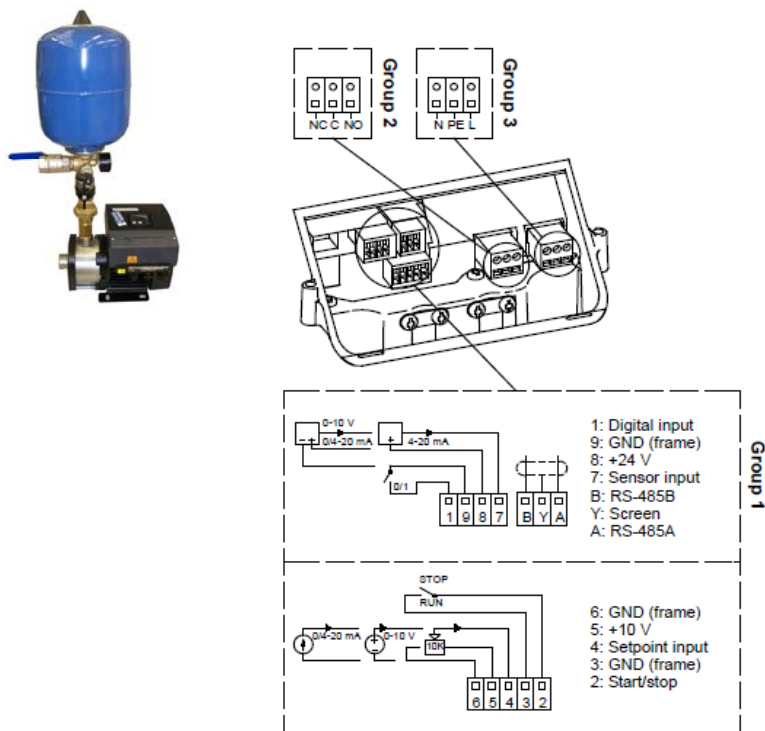

Fig. 1.5 Typical example of Inverter motor connections
- 1.3.6.4 Where optional remote fault signal is required connect volt free terminal in inverter motor to remote panel. (see Fig. 1.5).
- 1.3.6.5 Low water cut out is required on models with inverter motor, wire float switch to run/stop terminals 2 & 3 in motor terminal box. Make to run, break to stop. (see Fig. 1.5)